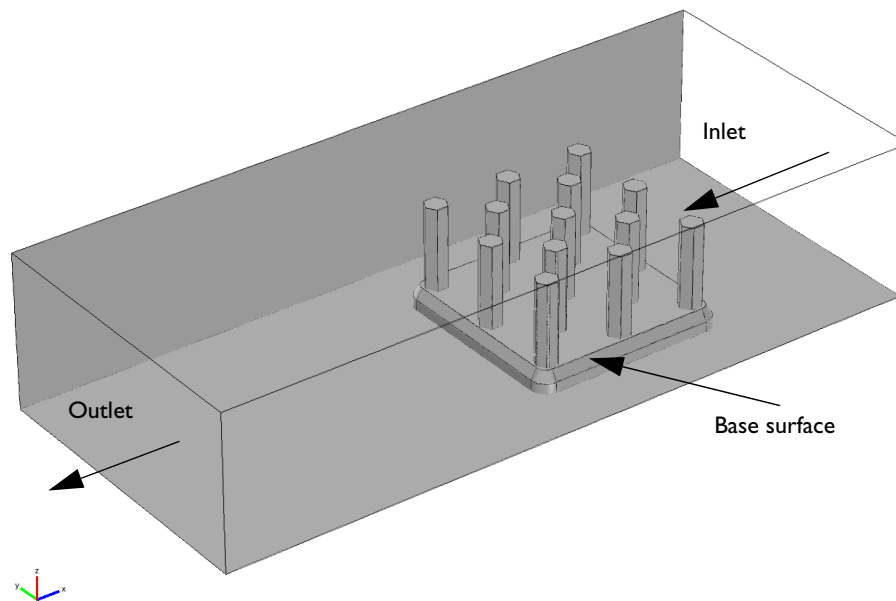

Figure 1: The application set-up including channel and heat sink.
1. Make a smiley face (Figure 1). Hint: think about using ellipses and intersections, not lines for the smile.
The modeled system consists of an aluminum heat sink for cooling of components in electronic circuits mounted inside a channel of rectangular cross section (see Figure 1).